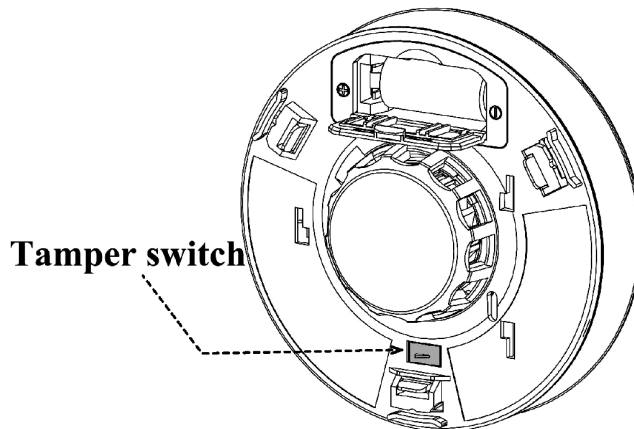

Figure 11: Tamper switch location
TAMPER ALARM: When the detector is removed from its Mounting Bracket, the tamper switch is opened, sounding the tamper alarm. The tamper switch location is shown in Figure 11. The tamper alarm pattern is two (2) long alarm beeps with two (2) corresponding yellow LED flashes. **WARNING:** For 5 minutes after the unit is powered (e.g. after a battery installation or change), a tamper warning will not sound and the transmitter will not send a tamper signal to the supervised receiver. After this initial 5 minutes the tamper warning will sound and will be active thereafter.